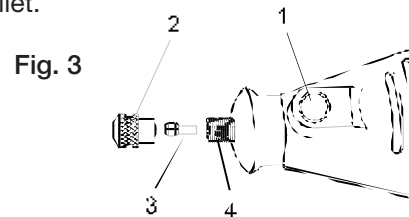

Fig. 3
2. Depress the spindle lock button (1) and slowly turn the collet nut (2) until the spindle lock button locks the spindle. (see Fig. 3)
4. Remove the collet (3) by pulling it out of the spindle (4).